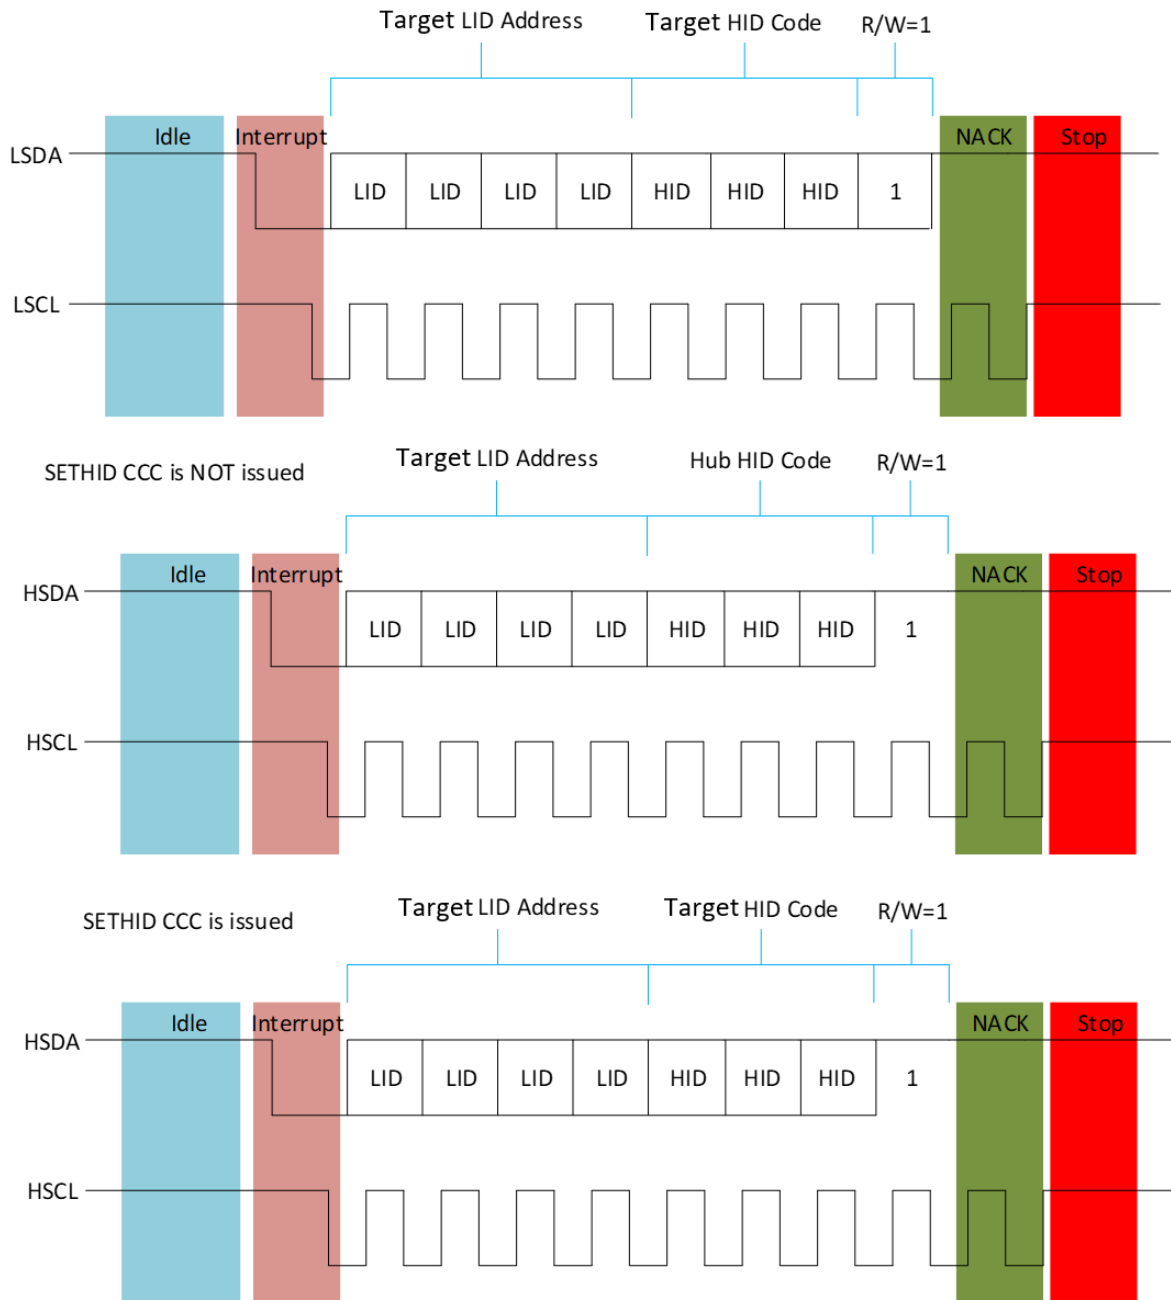

Figure 12 Local Device Interrupt - Host NACK Followed by STOP
- b. The Host sends NACK on the 9th bit as shown in Figure 12 followed by a STOP command. In this case, the local device does not transmit the IBI payload and waits for the next opportunity to request an interrupt. At this point, though Host sent a NACK, it does have a knowledge of which local device sent the IBI request. The local device retains the IBI status flag and Pending Interrupt Bits [3:0] = '0001'.